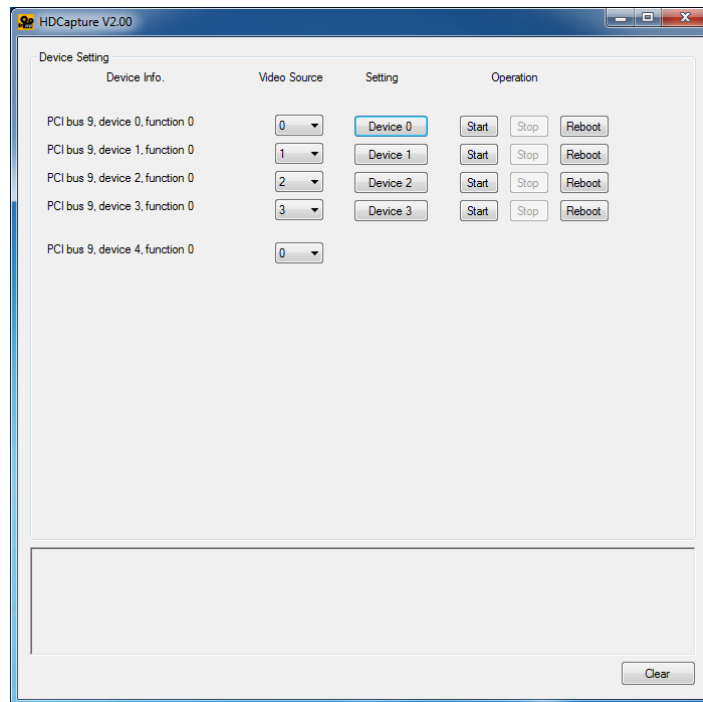

Figure 4-1: HDCapture
Step 1: Launch the HDCapture. The Device Setting on the right side panel of the HDCapture is varied based on the installed video capture card as shown in **Figure 4-1**. The best resolution to view HDCapture is 1280 x 1024 or above.